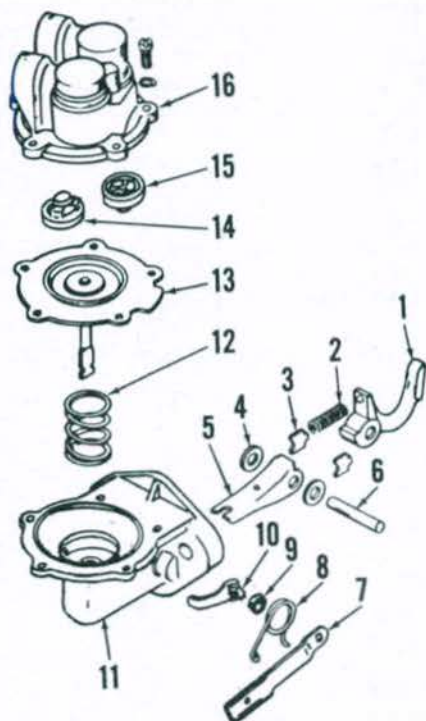

Fig. 86—Exploded view of fuel lift pump. Check valves (14 and 15) are available only with cover (16).
88. The fuel lift pump shown in Fig. 86 is operated by an eccentric on the engine camshaft. Output delivery pressure should be 41-69 kPa (6-10 psi).